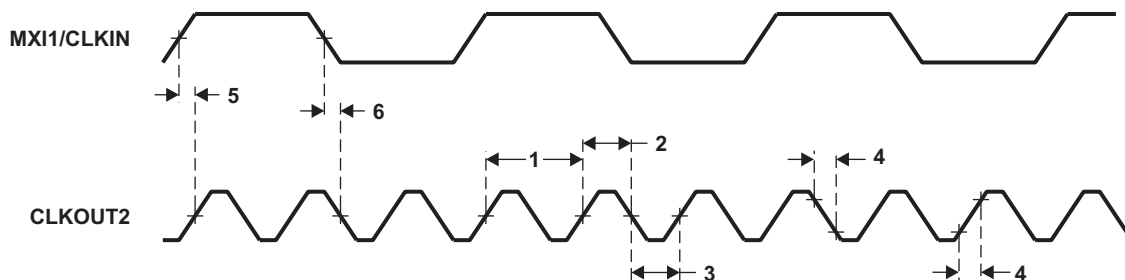

Figure 6-8. CLKOUT2 Timing
**Table 6-6. Switching Characteristics Over Recommended Operating Conditions for CLKOUT2(1)** (2) (see Figure 6-8)